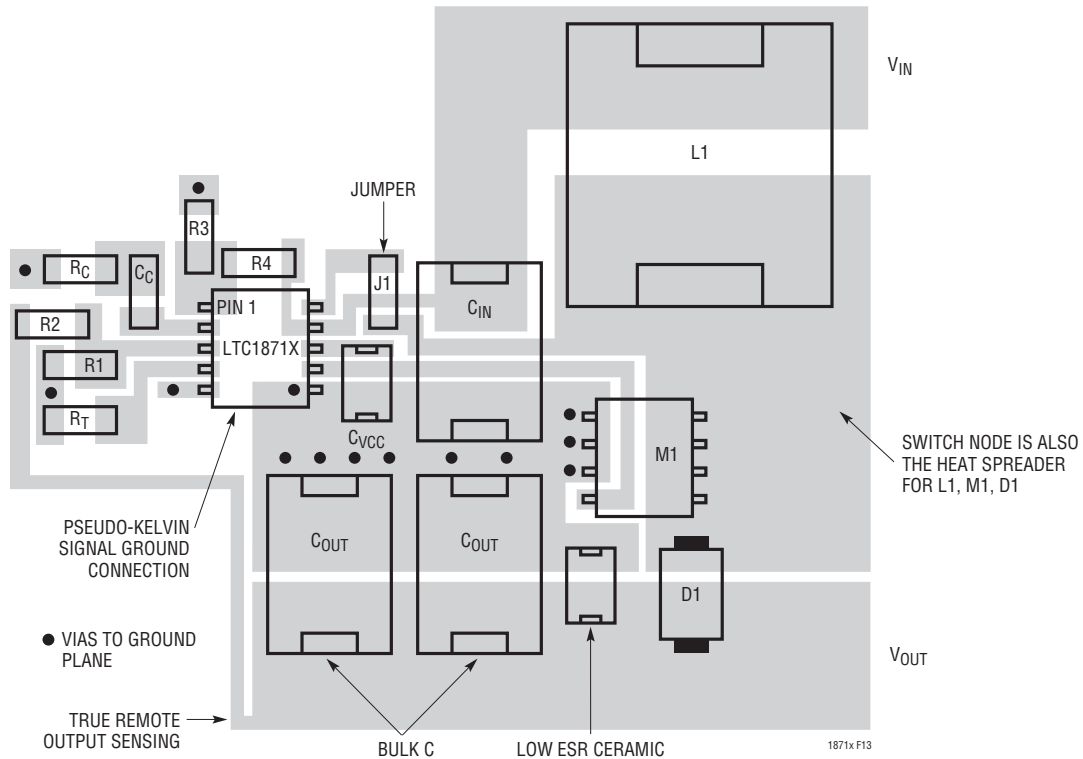

Figure 13. LTC1871X Boost Converter Suggested Layout
6. Place the small-signal components away from high frequency switching nodes. In the layout shown in Figure 13, all of the small-signal components have been placed on one side of the IC and all of the power components have been placed on the other. This also allows the use of a pseudo-Kelvin connection for the signal ground, where high di/dt gate driver currents flow out of the IC ground pin in one direction (to the bottom plate of the INTV_{CC} decoupling capacitor) and small-signal currents flow in the other direction.